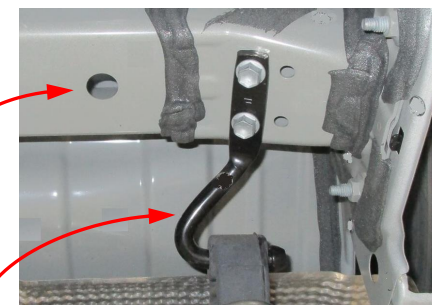

Figure 4.
- 4. Lower Muffler:** Using a 13mm socket, remove (2) factory M8 bolts from exhaust hanger on bottom of driver's side frame. Return factory bolts to owner. Using exhaust hanger removal pliers, remove (1) rubber hanger on passenger's side near frame, and (1) rubber hanger in front of the muffler. **NOTE:** Be sure that exhaust is supported before removing exhaust hangers.
- 5. For ease of hitch installation, remove the steel exhaust hanger from rubber hanger on the driver's side of muffler. See Figure 4.**